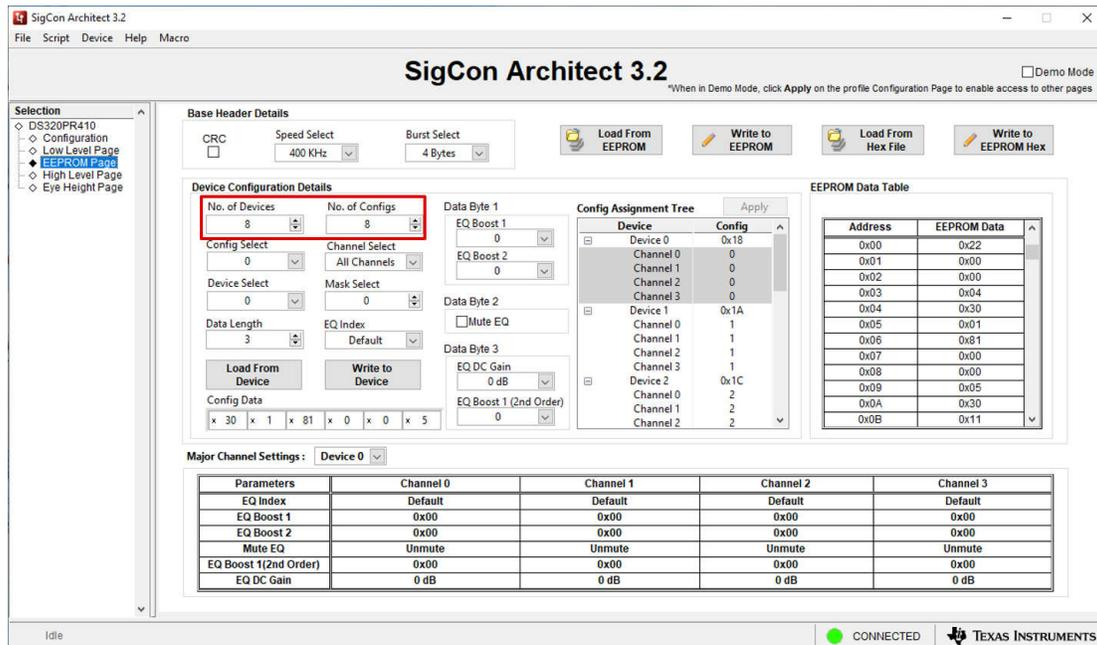

Figure 4-1. EEPROM Page: Number of Configs and Number of Devices
- Multiple devices can be programmed at once. Select the number of devices and the number of configurations using the menus shown in Figure 4-1. Up to 32 different configurations can be created and assigned to each device and channel, if desired.